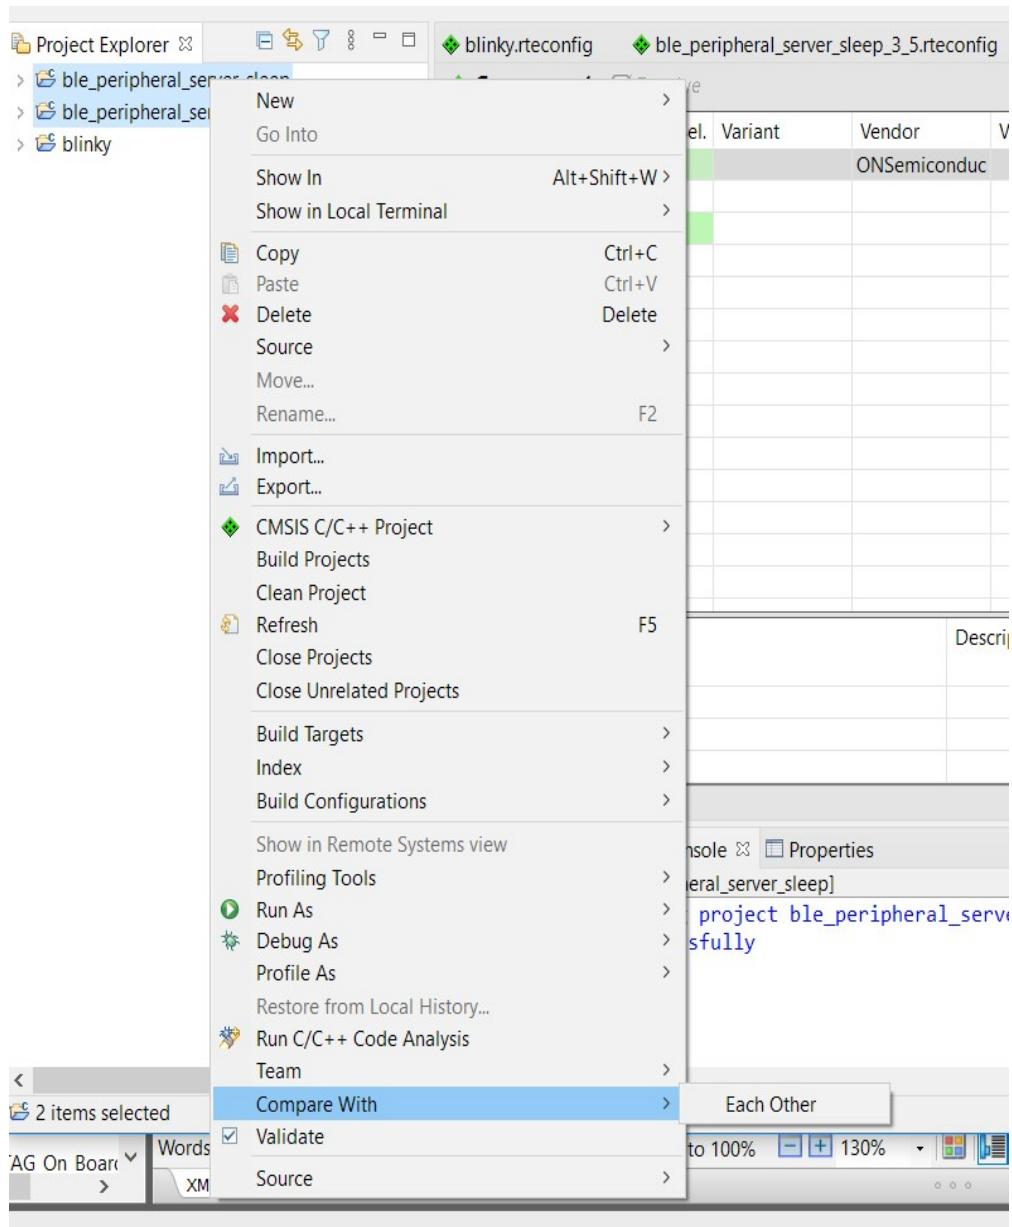

Figure 19. Comparing Your Sample Application to the Latest Version
6. Compare your application to the latest sample from the CMSIS-Pack using the Eclipse **Compare With** feature, as shown in the "Comparing Your Sample Application to the Latest Version" figure (Figure 19), or with your preferred comparison tool.